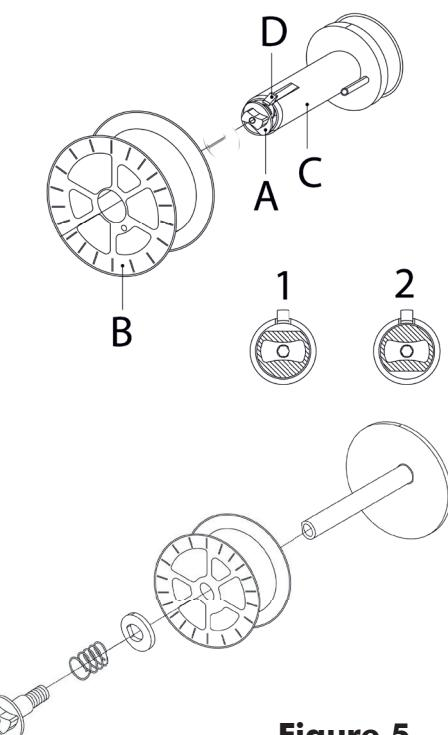

Figure 5
- Loosen the nut (A) of the spool holder (position 1) (brake drum). In the case you are replacing the wire spool, extract it by pushing the snap tongue (D) (Fig 5). Remove the plastic protection from the spool. Place it on the spool holder. Tighten the lock nut (A) turning it to position 2. (Fig. 16).